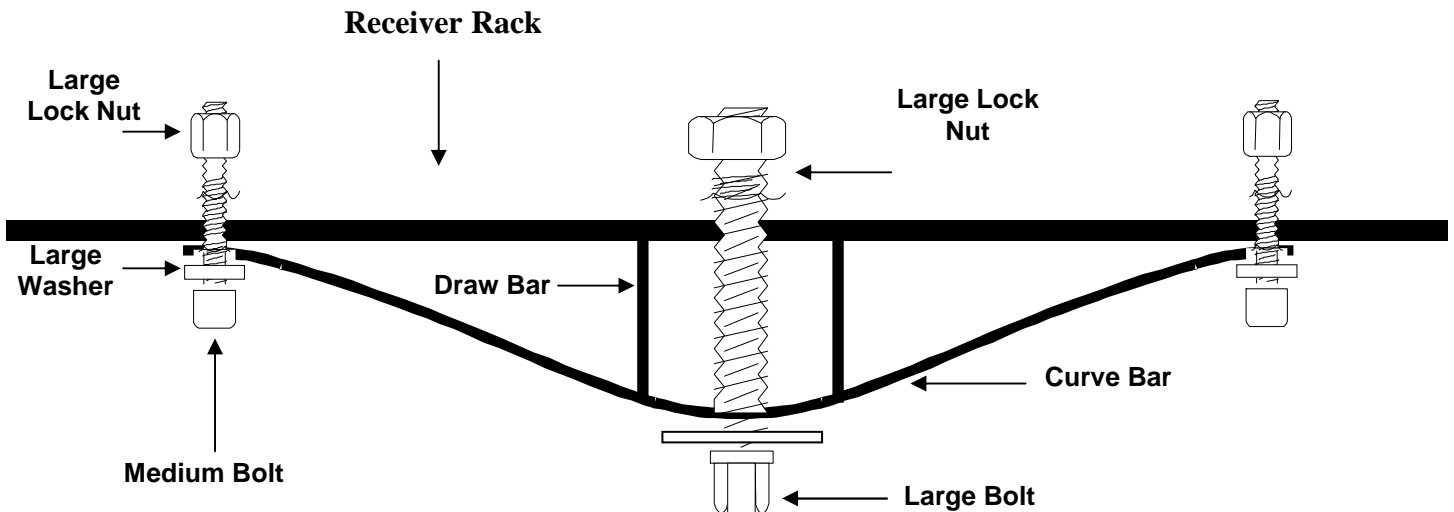

Figure 4
Step 4: Place the curved support bars on both sides under the drawbar. Insert the “Large” bolts through the remaining two outside holes through the rack, drawbar and the curved support bars. (Fig 4) Attach using the “Large” washers and nuts. Do not tighten completely at this time. (You may refer to Figure 3 for proper attachment.)
Step 5: Insert the “Medium” 10mm x 25mm bolt through the rack and ends of the curved support bar. Attach with “Large” washer and lock nut. Repeat this step at each location. (Fig 4)